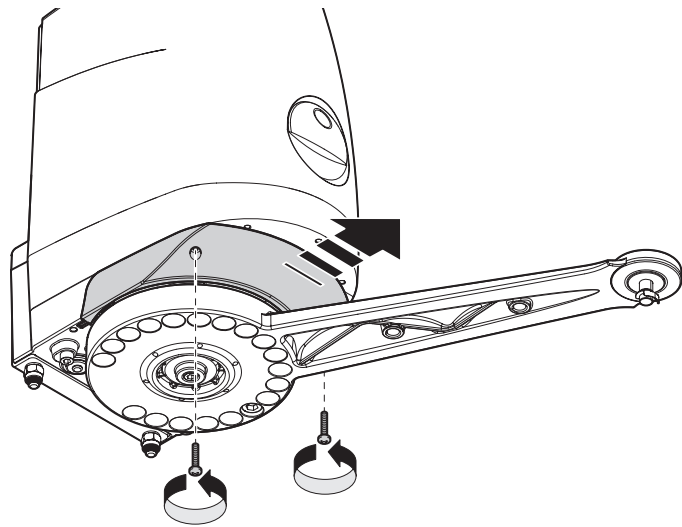

Fig. 13
02. Remove the 2 screws underneath the motor and remove the cover as shown in **Fig. 13**;